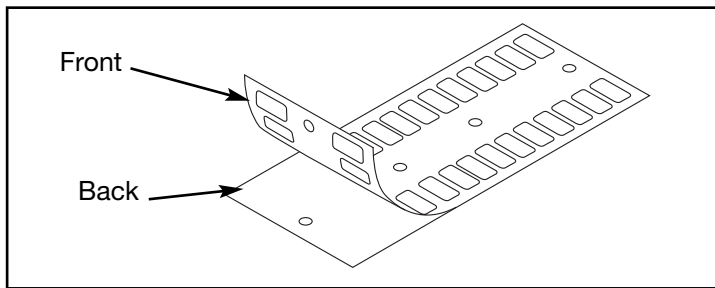

Figure 3
17. Place decals on weight plates according to steps listed below and Figures 3 and 4.